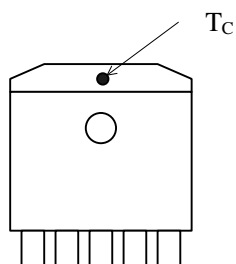

Figure 2-1. Case Temperature Measurement Point
(3) The case temperature ( $^\circ\text{C}$ ) is measured at the point defined in Figure 2-1.